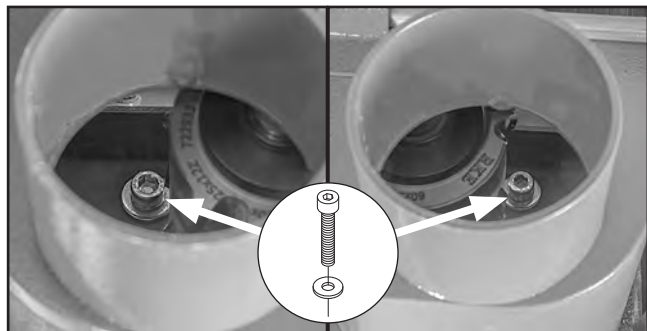

Figure 84. Location of cutterhead guard fasteners.
3. Remove (2) cap screws and flat washers (see **Figure 84**), then remove cutterhead guard.